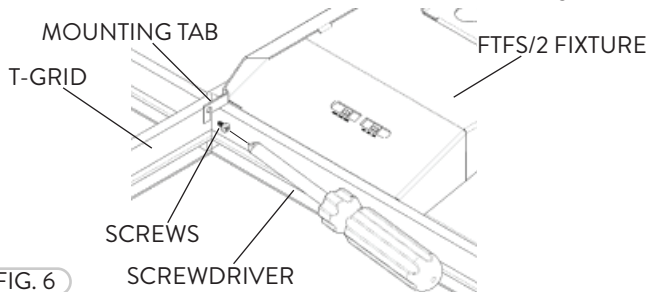

FIG. 6
- 4 To clear corners for ceiling tile, bend tabs flush against the T-Grid. Use a sheet metal Screw to fasten fixture to the T-Grid (Fig. 6).